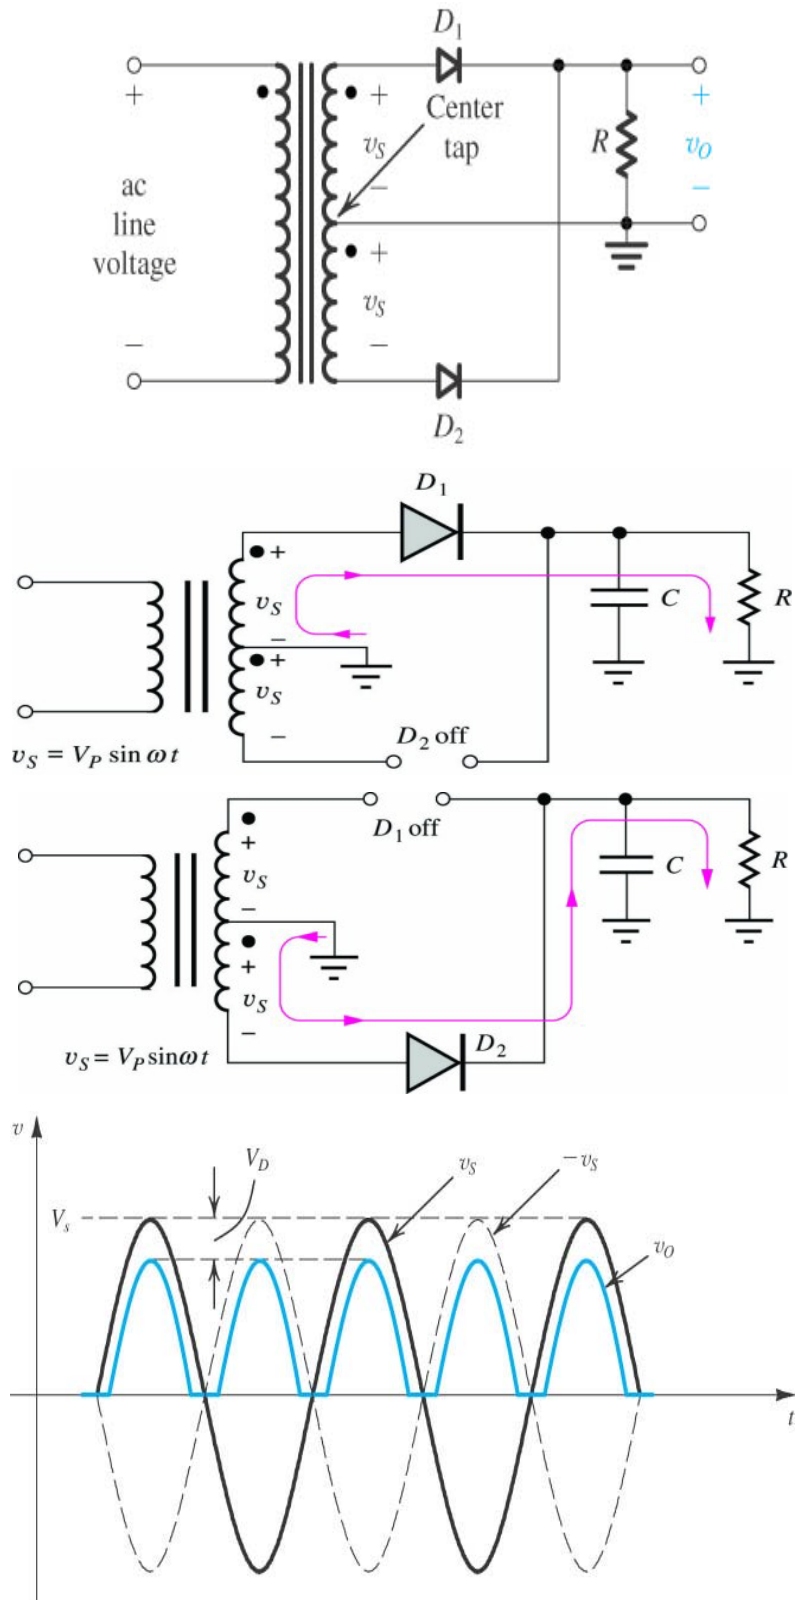
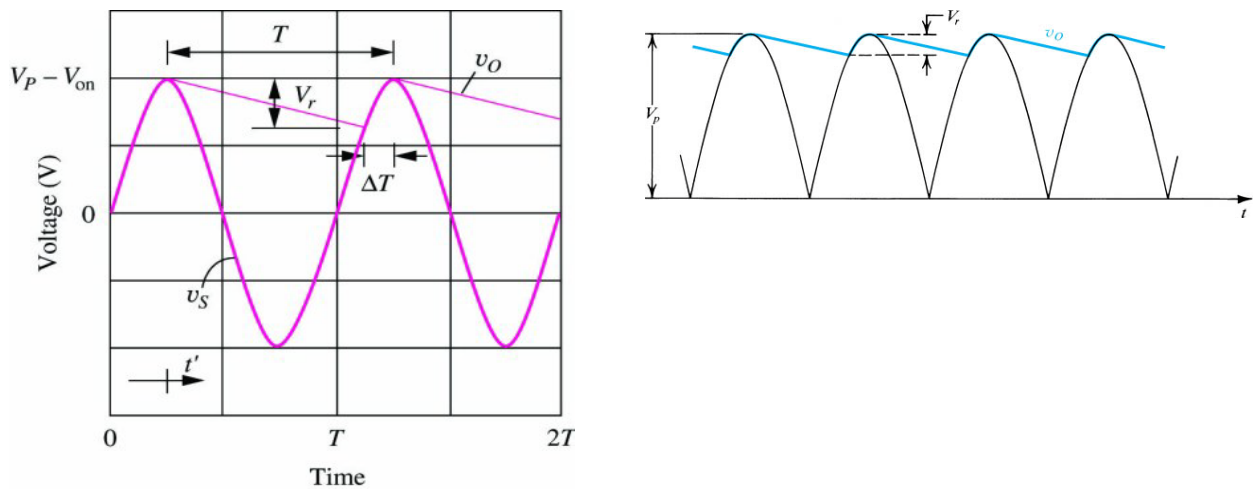

Figure 6-3-3: A full-wave rectifier and its output waveforms.
Figure 6-4: Output waveforms with ripples.
5. Figure 6-3-3 shows a **full-wave rectifier** using two diodes. The direction of the current flowing in the load resistor produces the positive output voltage, in both positive and negative input voltage.
7. The output of the rectifier contains considerable voltage variation called a **ripple**. A low-pass filter is usually required to remove the ripple. The simplest low-pass filter can be constructed using a **large capacitor** connected across the output of the rectifier, in parallel with the load resistor as shown in Figures 6-3-3 and 6-3-4. Figure 6-4 shows the output waveforms with ripples.